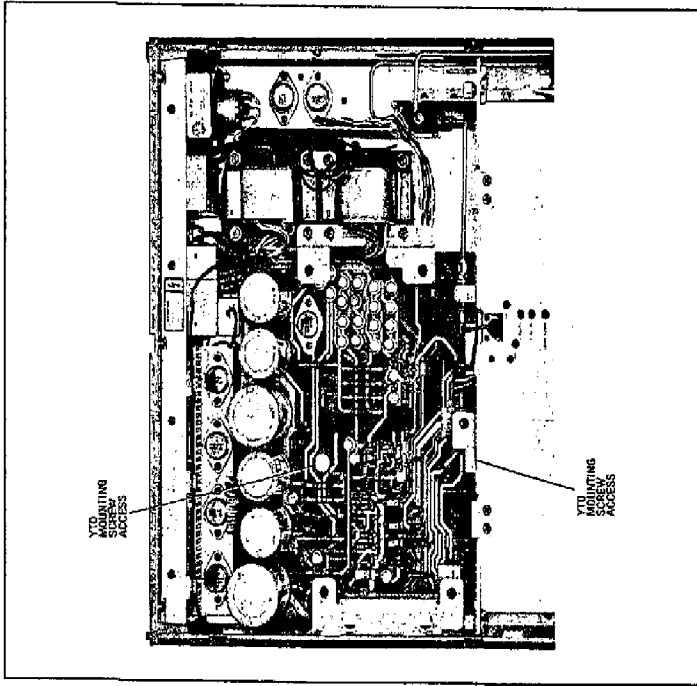

Figure 8-306. Location of YTO Mounting Screws
- c. Refer to Figure 8-306 for the following steps.
- c. Remove the two screws securing the YTO Phase Detector. (Refer to Figure 8-306) One screw is accessible through a hole in the AS Power Supply Board (ASPS) and the other through the ASPS. Remove the screws through the AS Card and the AS Power Supply Board.